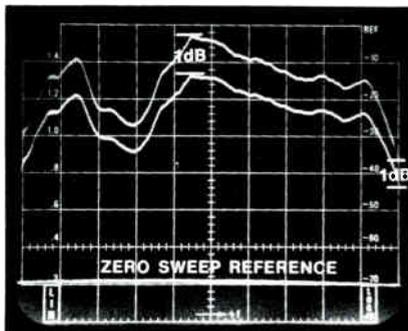

Figure 6
10) It can be helpful to use the input attenuator to generate a double trace on the screen with 1 dB separation for calibration purposes. The summation sweep display is a linear display, however, and the 1 dB reference *cannot* be interpolated across the screen. (Figure 6)